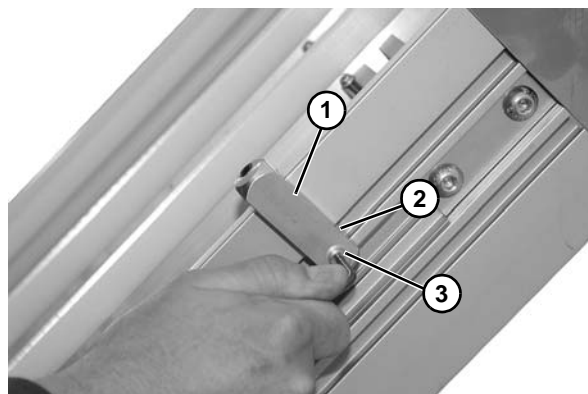

Figure 30
1. Install guide block (**Figure 30, item 1**) with drop-in tee bar (**Figure 30, item 2**) in conveyor slot
2. Tighten socket head screw (**Figure 30, item 3**) to secure position.
3. Install guide (**Figure 31, item 1**) onto top slot in guide block (**Figure 30, item 2**) and secure with set screw (**Figure 30, item 3**).